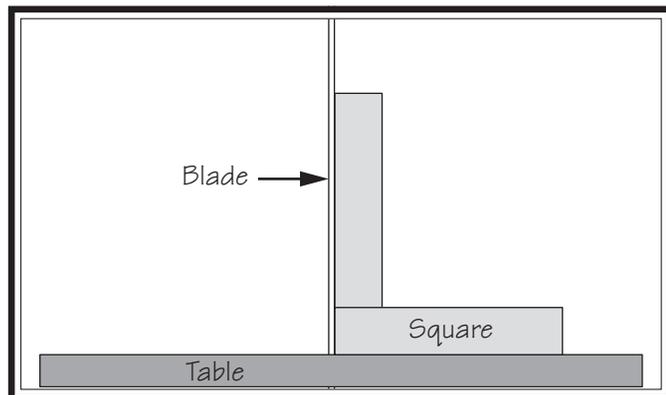

Figure 65. Squaring table to the blade.
- Lower table and place a machinist's square flat on table against the side of the blade, as illustrated in **Figure 65**.